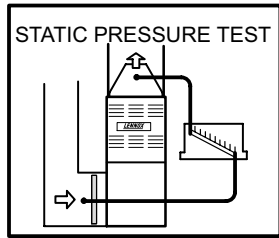

FIGURE 21
- 1 - Tap locations shown in figure 21.